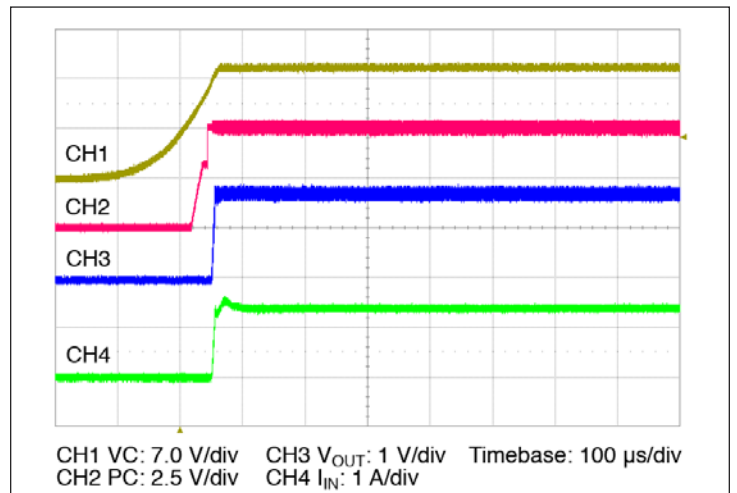

Figure 14 — Start up from application of VC;  $V_{IN}$  pre-applied
- **Stand Alone Operation (VC applied after VIN):** In this case the module output will begin to rise upon the application of the VC voltage (See Figure 14). The Adaptive Soft Start circuit (See Section 10) may vary the output rate of rise in order to limit the inrush current to its maximum level. When starting into high capacitance, or a short, the output current will be limited for a maximum of 900 µsec. After this period, the adaptive soft start circuit will time out and the module may shut down. No restart will be attempted until VC is re-applied, or PC is toggled. The maximum output capacitance is limited to 1500 µF in this mode of operation to ensure a successful start.